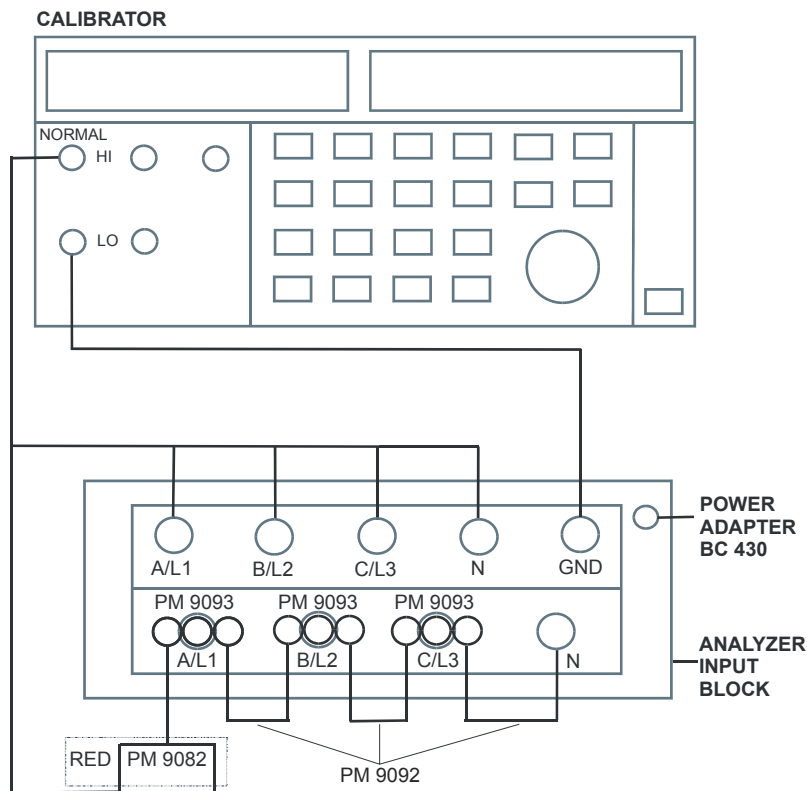

Figure 5-3. Offset, Low Voltage, and Current Gain Adjustment
1. Connect the Analyzer to the 5500A as shown in Figure 5-3.
2. Keep the Analyzer connected to the 5500A as shown in Figure 5-3.